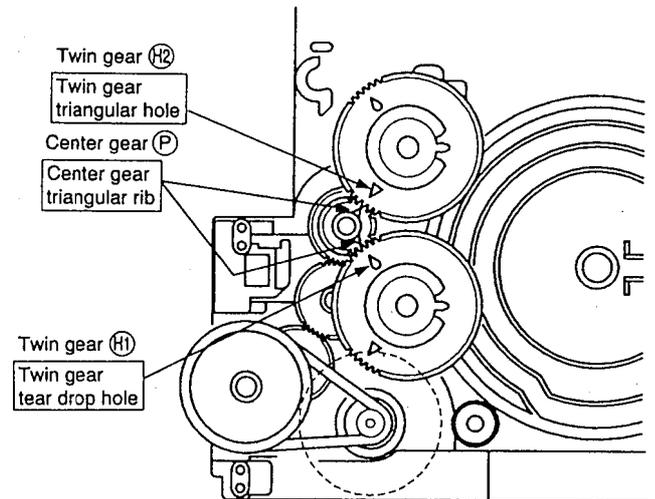

Fig. 1-11 Attach the gears
1. Attach the center gear ⑨, twin gears ⑩ and ⑪ in the positions indicated in Fig. 1-11.